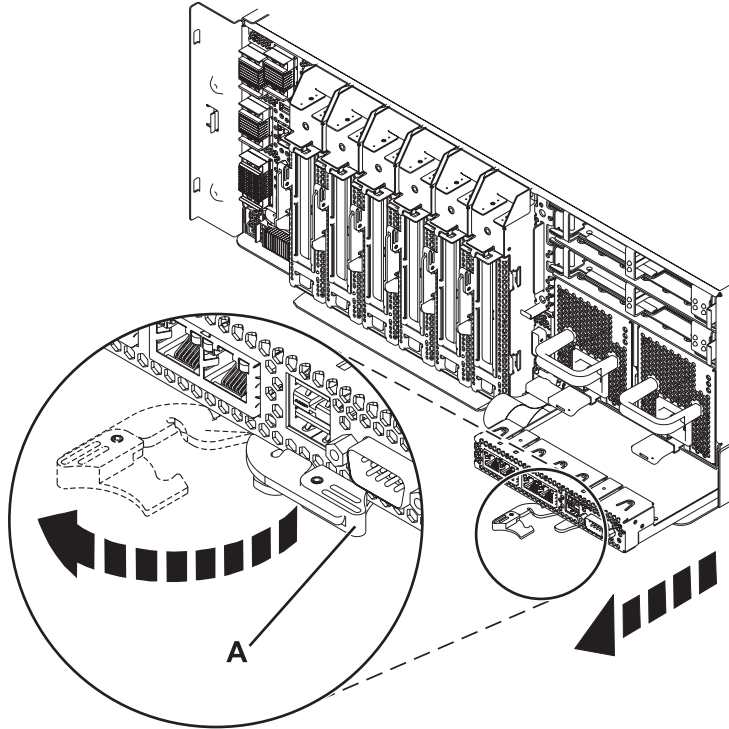

Figure 1. Removing a Host Ethernet Adapter for 17M/MB, 17M/MC, 79M/HB, or 79M/HC
5. Locate the Ethernet adapter that you want to remove as shown Figure 1.